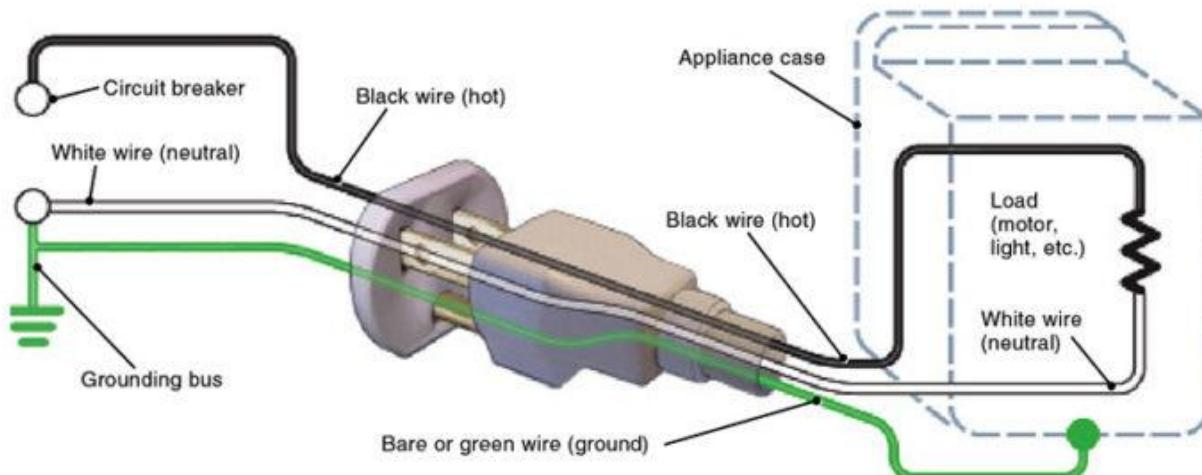

Figure 4.1: Three-Wire Plug and Receptacle
- 4-3 If two-slot receptacles are in service, they should be replaced with properly wired three-slot receptacles before using any piece of equipment that has a three-prong plug. Notice in Figure 4.1 that the shape and arrangement of the prongs and the slots make it impossible to connect the grounding wire incorrectly. This arrangement does not mean that protective measures will always work well, however.